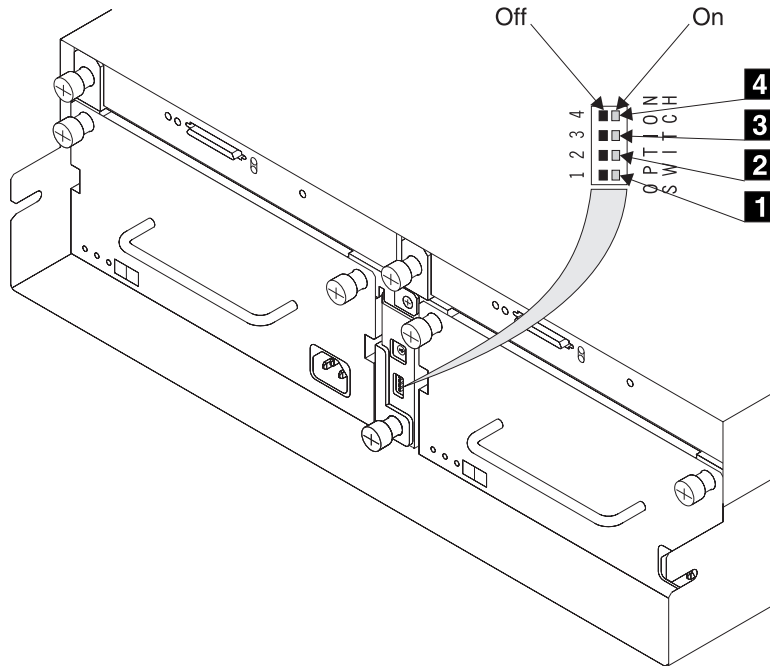

Figure 14. Option Switches
5. Now look at the option switches. Refer to Figure 14.
9. Switch on the DC On/Standby switch **1** on each power supply. If option switch 1 (see Figure 14 on page 20) is on, the green DC PWR light **3** comes on. If option switch 1 (see Figure 14 on page 20) is off, the green DC PWR light **3** stays off. It will come on when the 2104 is connected to the using system.